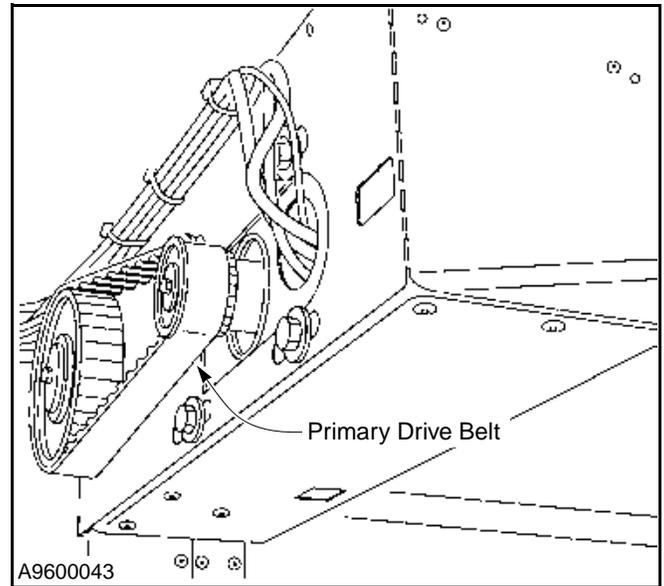

Figure 22
1. Inspect the primary drive belt. The belt should not be frayed, cracked, worn, or damaged. Also check for any damaged or missing teeth. Replace the drive belt if necessary. (See Figure 22.)